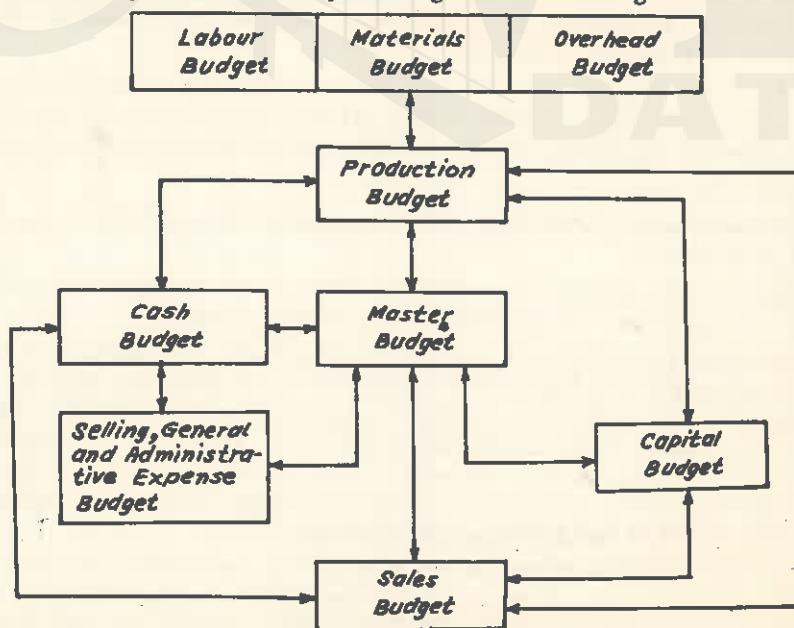

Fig 1.2 Budgeting
(1) Planning
- Fig. 1.2 shows that comprehensive budgeting consists of a number of budgets with the sales budget, based upon a sales forecast, usually serving as the starting point in the process. The production budget is based on the sales budget and, all others are, in turn, constructed on consistent assumptions concerning the future.
(2) Control